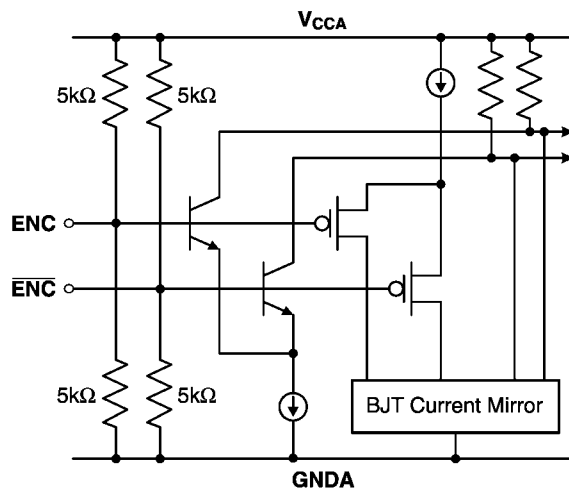

Figure 29. CLC5957 ENCODE Clock Inputs
(2) These parameters are ensured by test.
(3) Values specified based on characterization and simulation.
(4) See Figure 29 for ENCODE inputs circuit.
The CLC5957's differential input clock scheme is compatible with all commonly used clock sources. Although small differential and single-ended signals are adequate, for best aperture jitter performance a low noise differential clock with a high slew rate is preferred. As depicted in Figure 29, both ENCODE clock inputs are internally biased to  $V_{CC}/2$  through a pair of 5kΩ resistors. The clock input buffer operates with any common-mode voltage between the supply and ground.